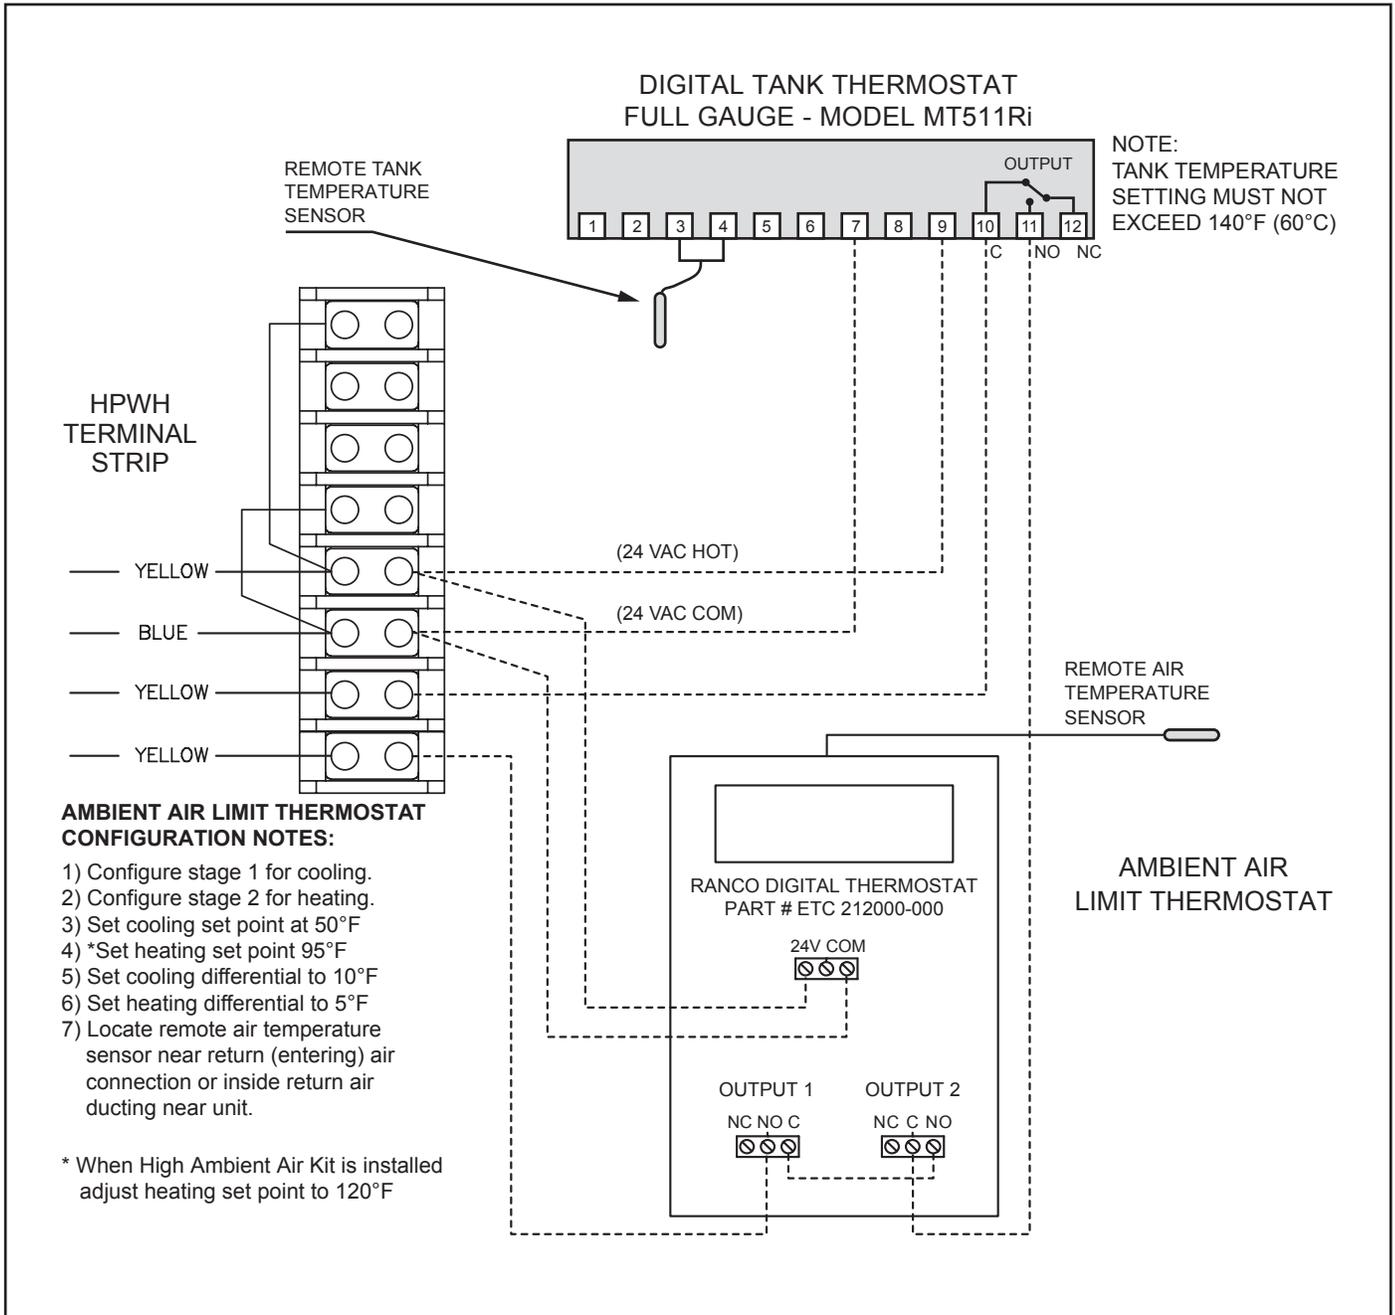
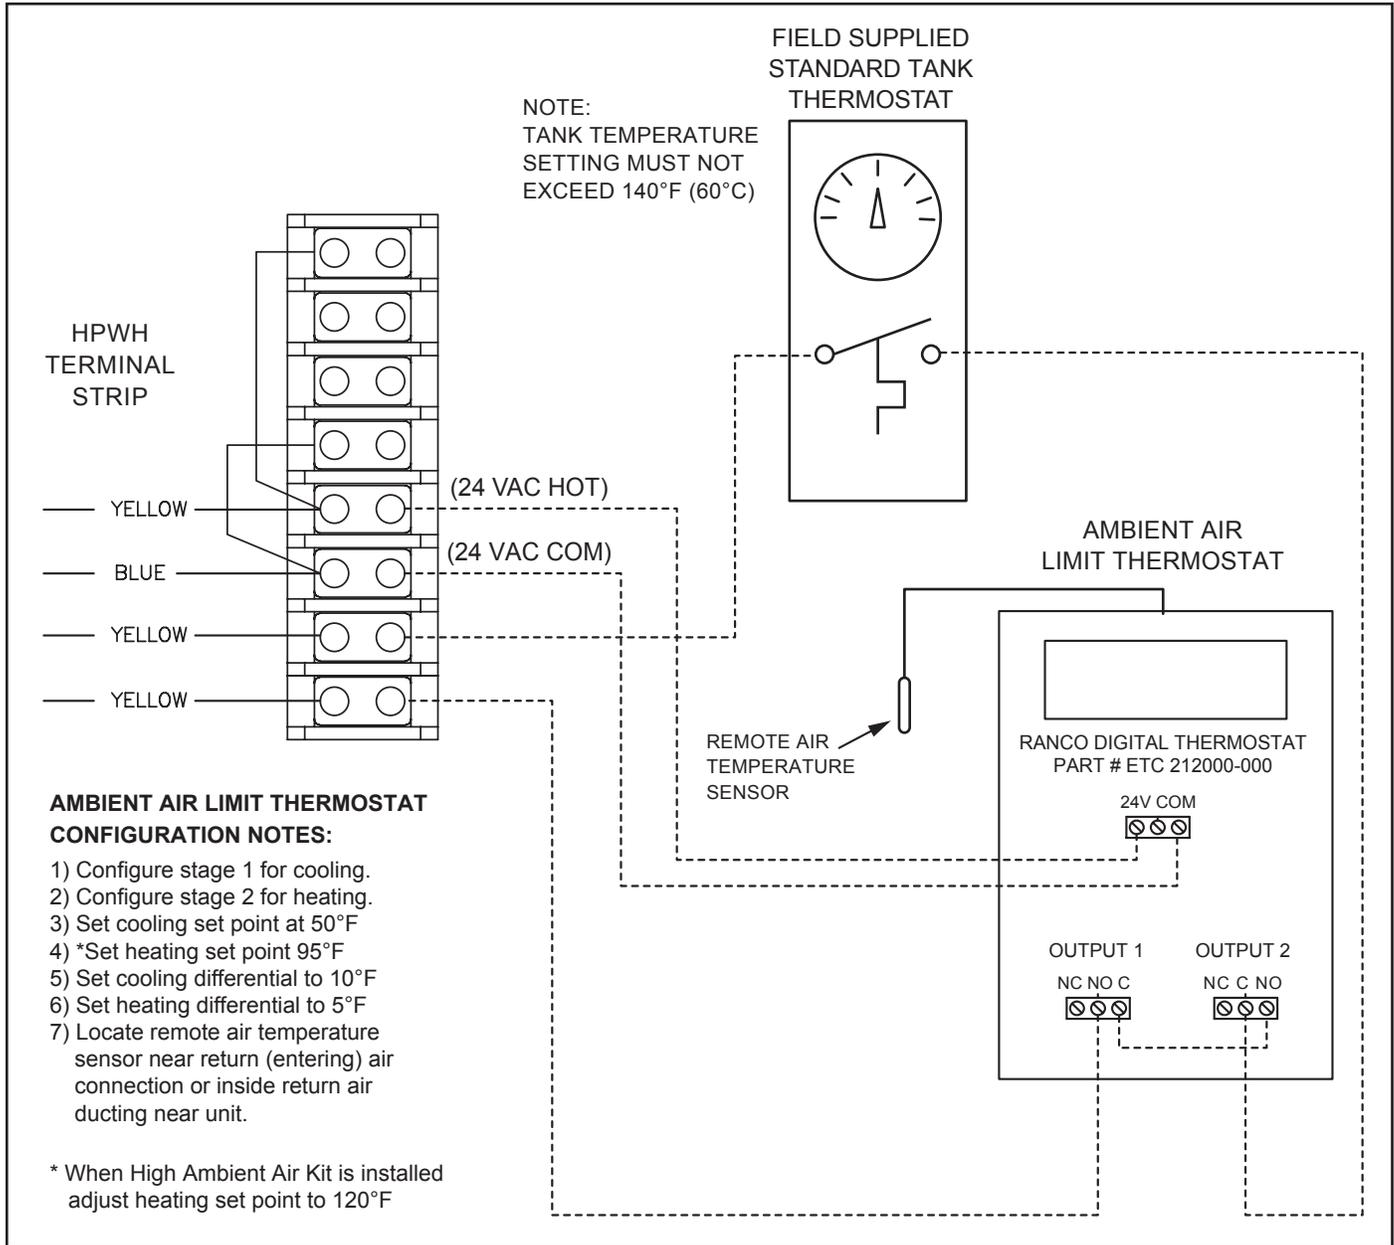

Figure 15
Figure 16
The Control Board has four (4) proving circuits that must be closed by either a factor-installed jumper wire or the dry contacts in an external control to enable HPWH operation. The Control Board also has one (1) thermostat circuit that is factory wired to the HPWH Terminal Strip. The factory supplied Digital Tank thermostat (see page 19) or a field supplied standard tank thermostat is wired to this thermostat circuit to regulate water temperature in the storage tank. See Figure 15 on page 37 and Figure 16 on page 38.